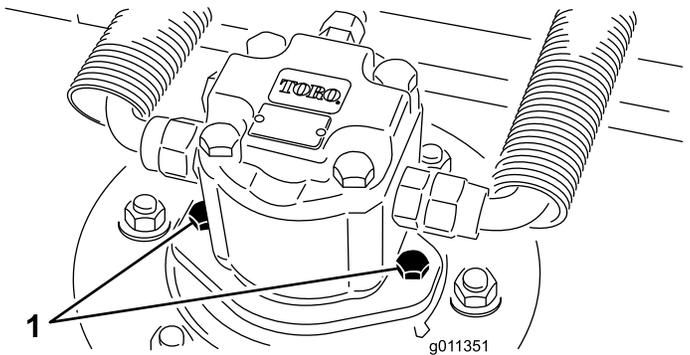

Figure 98
2. Disconnect and remove the hydraulic motor from the deck (Figure 98). Cover the top of the spindle to prevent contamination.
3. Install the hydraulic motor to the deck (Figure 98). Make sure that the O-ring is in position and not damaged.